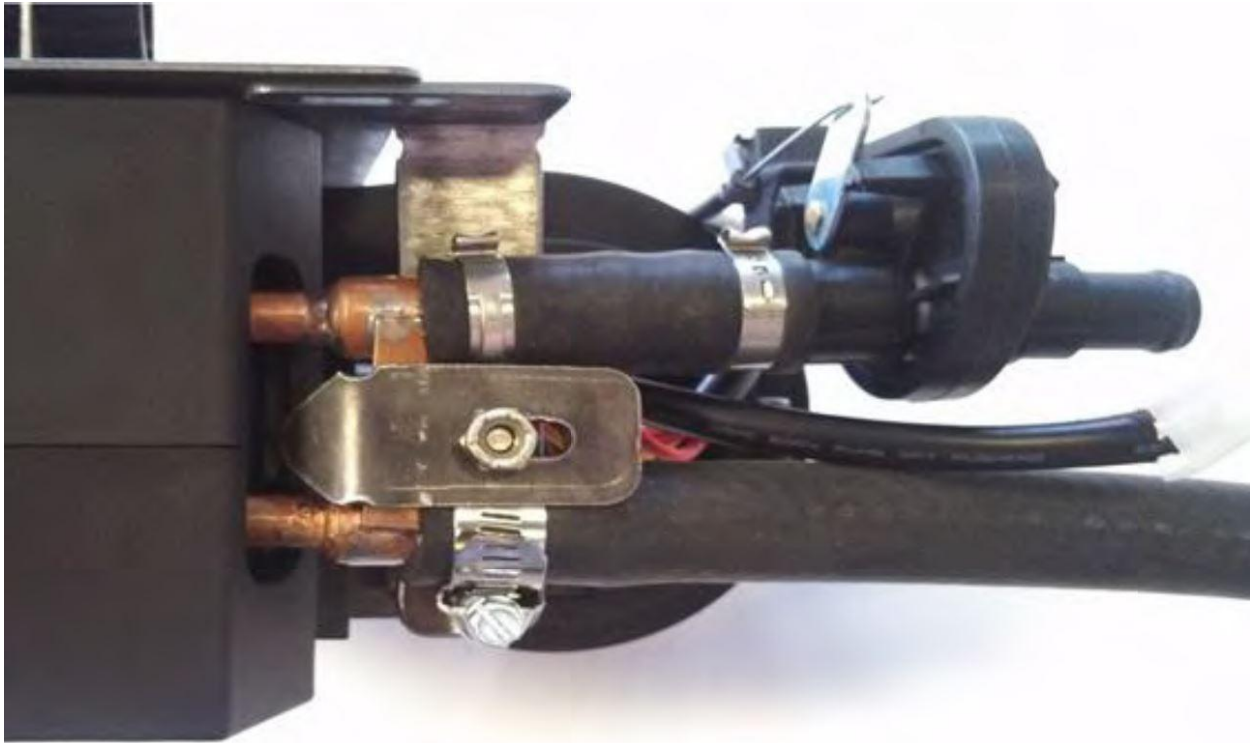

Figure 7
19. Install the Core Support Brackets to hoses as shown in Figure 7. **Do not over tighten through bolt.**